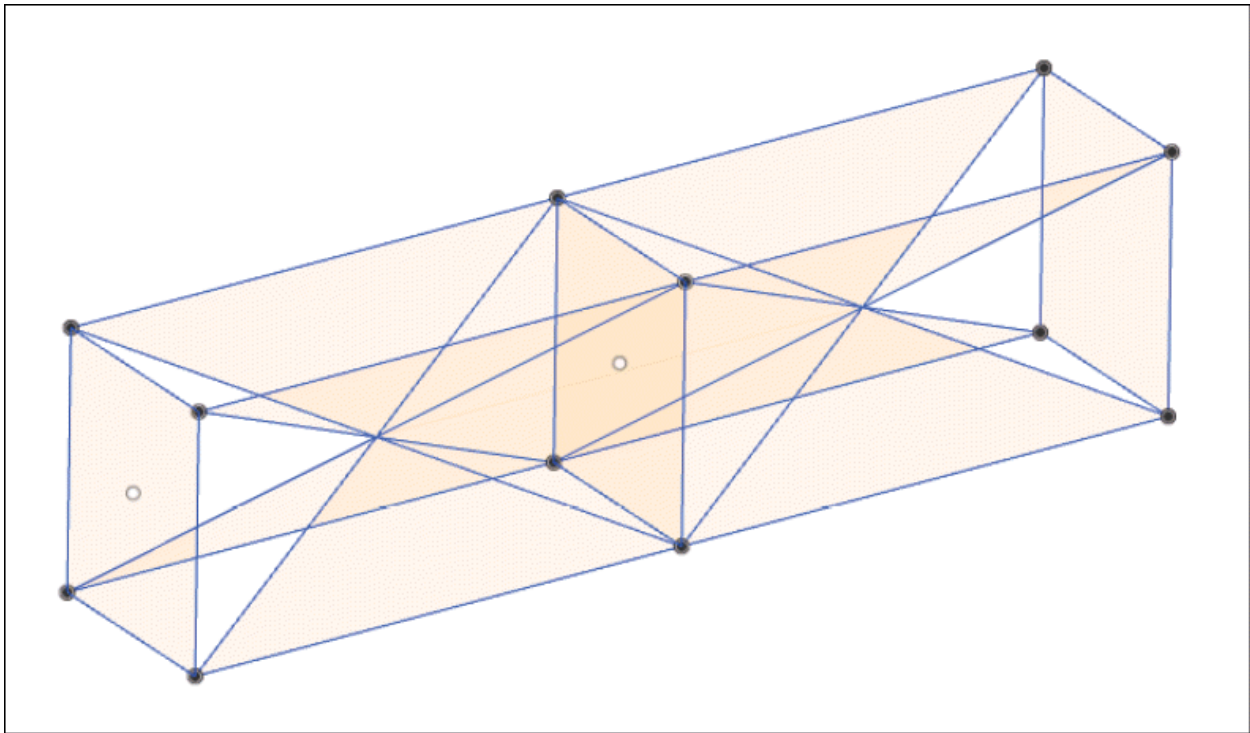

Figure-11. Sketch created for frame
- Now what left is just clicks and clicks. Join various points of sketches to form frame sketch as shown in Figure-11.